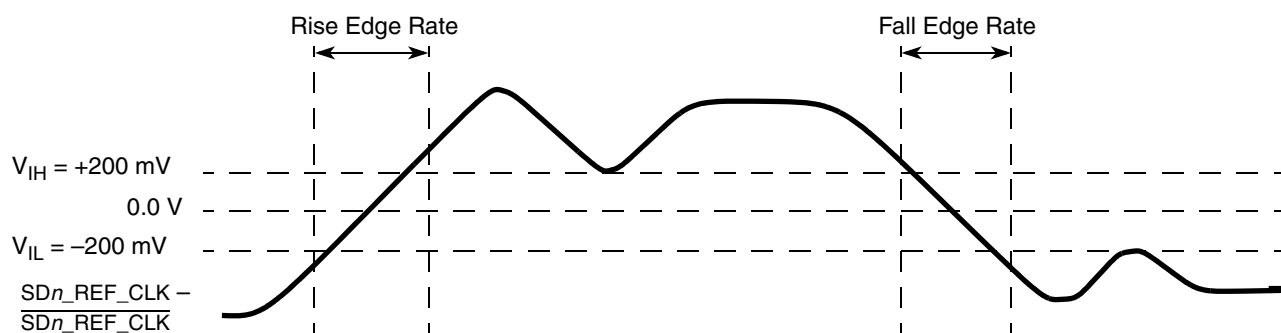

Figure 66. Differential Measurement Points for Rise and Fall Time
3. Measured from -200 mV to +200 mV on the differential waveform (derived from SDn_REF_CLK minus $\overline{SDn_REF_CLK}$). The signal must be monotonic through the measurement region for rise and fall time. The 400 mV measurement window is centered on the differential zero crossing. See Figure 66.